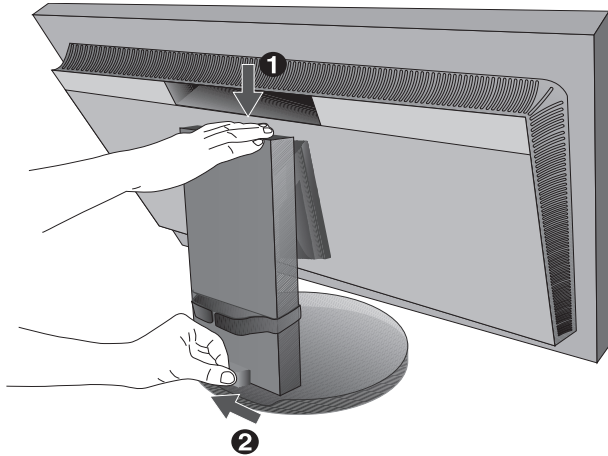

Figure B.1
- Height adjustment is locked by a lock switch. Place a hand on top of the stand to push down the screen to the lowest position. Slide the lock switch to unlock the stand and raise the monitor screen (**Figure B.1**).